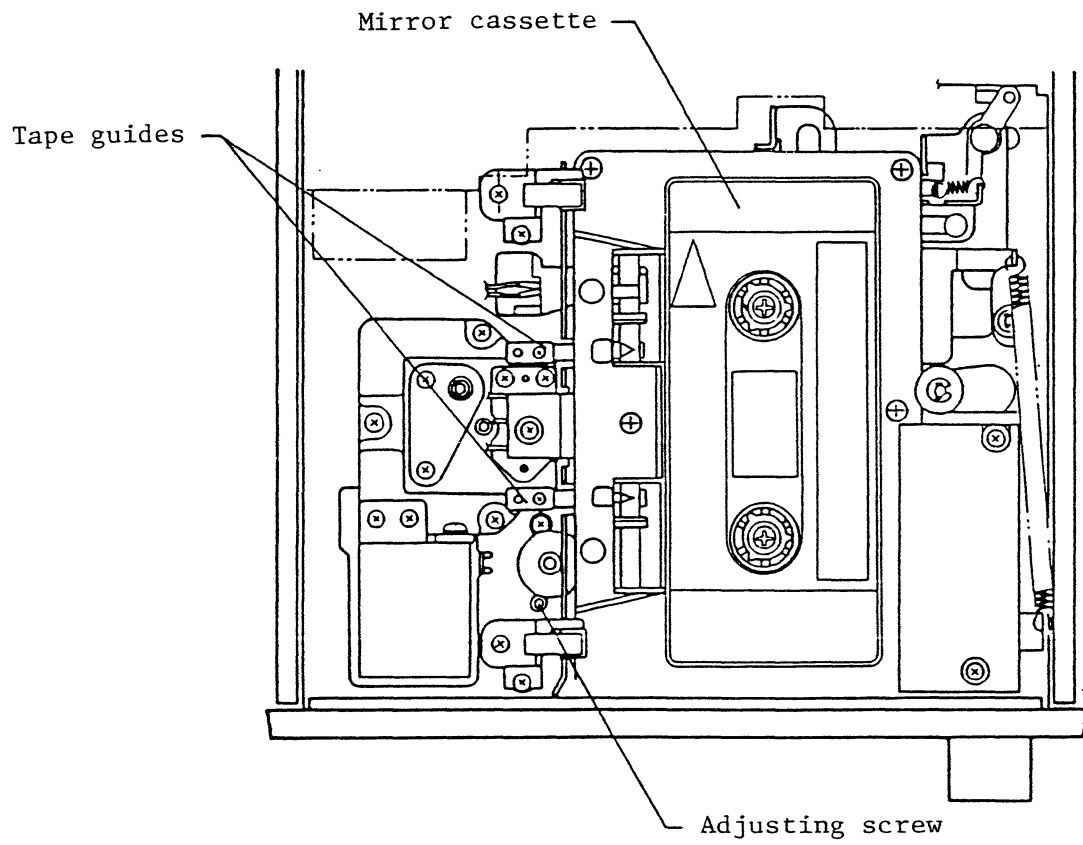

Fig.422 Loading of mirror cassette
(1) Articles to be used
(2) Check and adjustment procedures
- (d) Load the mirror cassette on MTU. (Fig. 422)